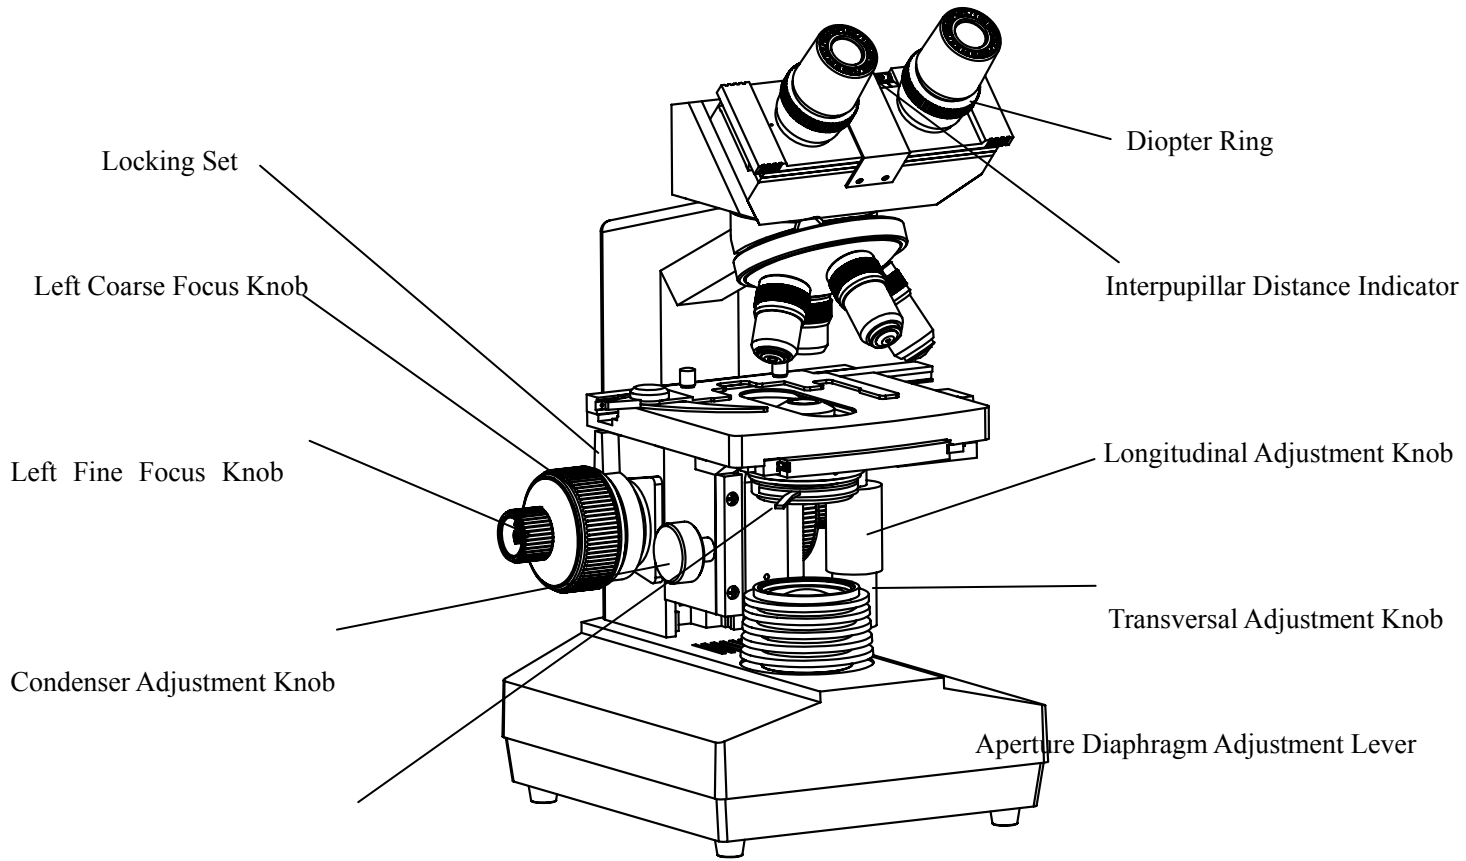
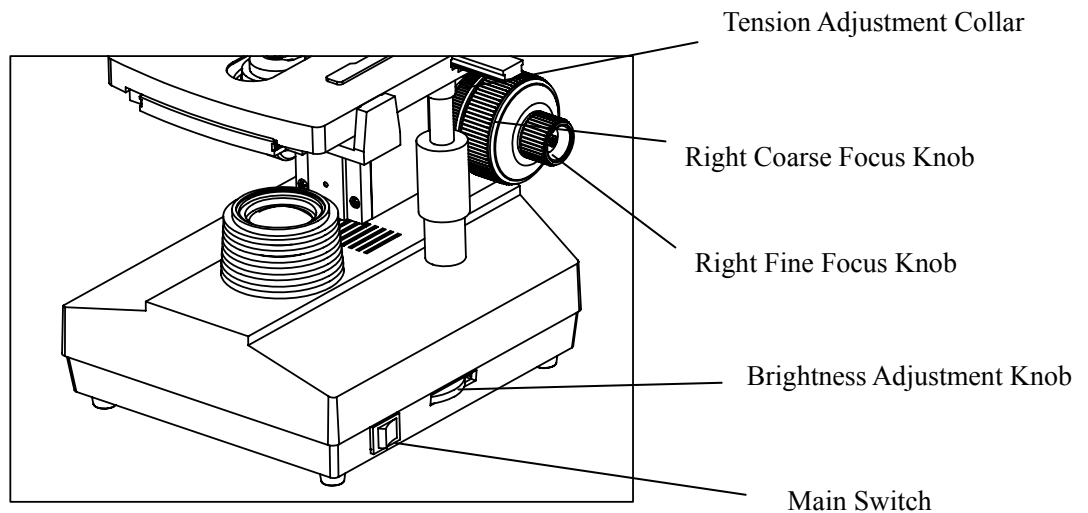

Fig.14
Fig.15
#### 3.1 Adjustment Sets (Fig.14, Fig.15)
2. Turn the coarse focus knob ① conversely to lower the specimen and search images in the 10×ocular simultaneously, and then use the fine knob ② to make focus. After that, you can replace with other magnification objectives safely, and focus without the risk of damaging the specimen.
3. When the specimen is focused, tighten the locking set (in Fig.14) to give a height limit to the stage. In this way, the stage only can lower, avoiding false operation and damage to the specimen.